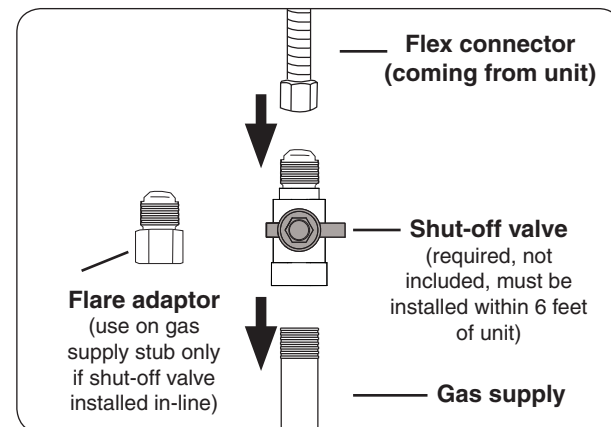

Fig. 15-3 Connecting to a gas line
- Connect the flex connector to the shut-off valve (see Fig. 15-3). Tighten securely.
- Install the supplied flare adapter to the gas supply using a pipe joint compound resistant to all gasses (see Fig. 15-3). Tighten securely.
- Connect the flex connector to the flare adapter (see Fig. 15-3). Tighten securely.